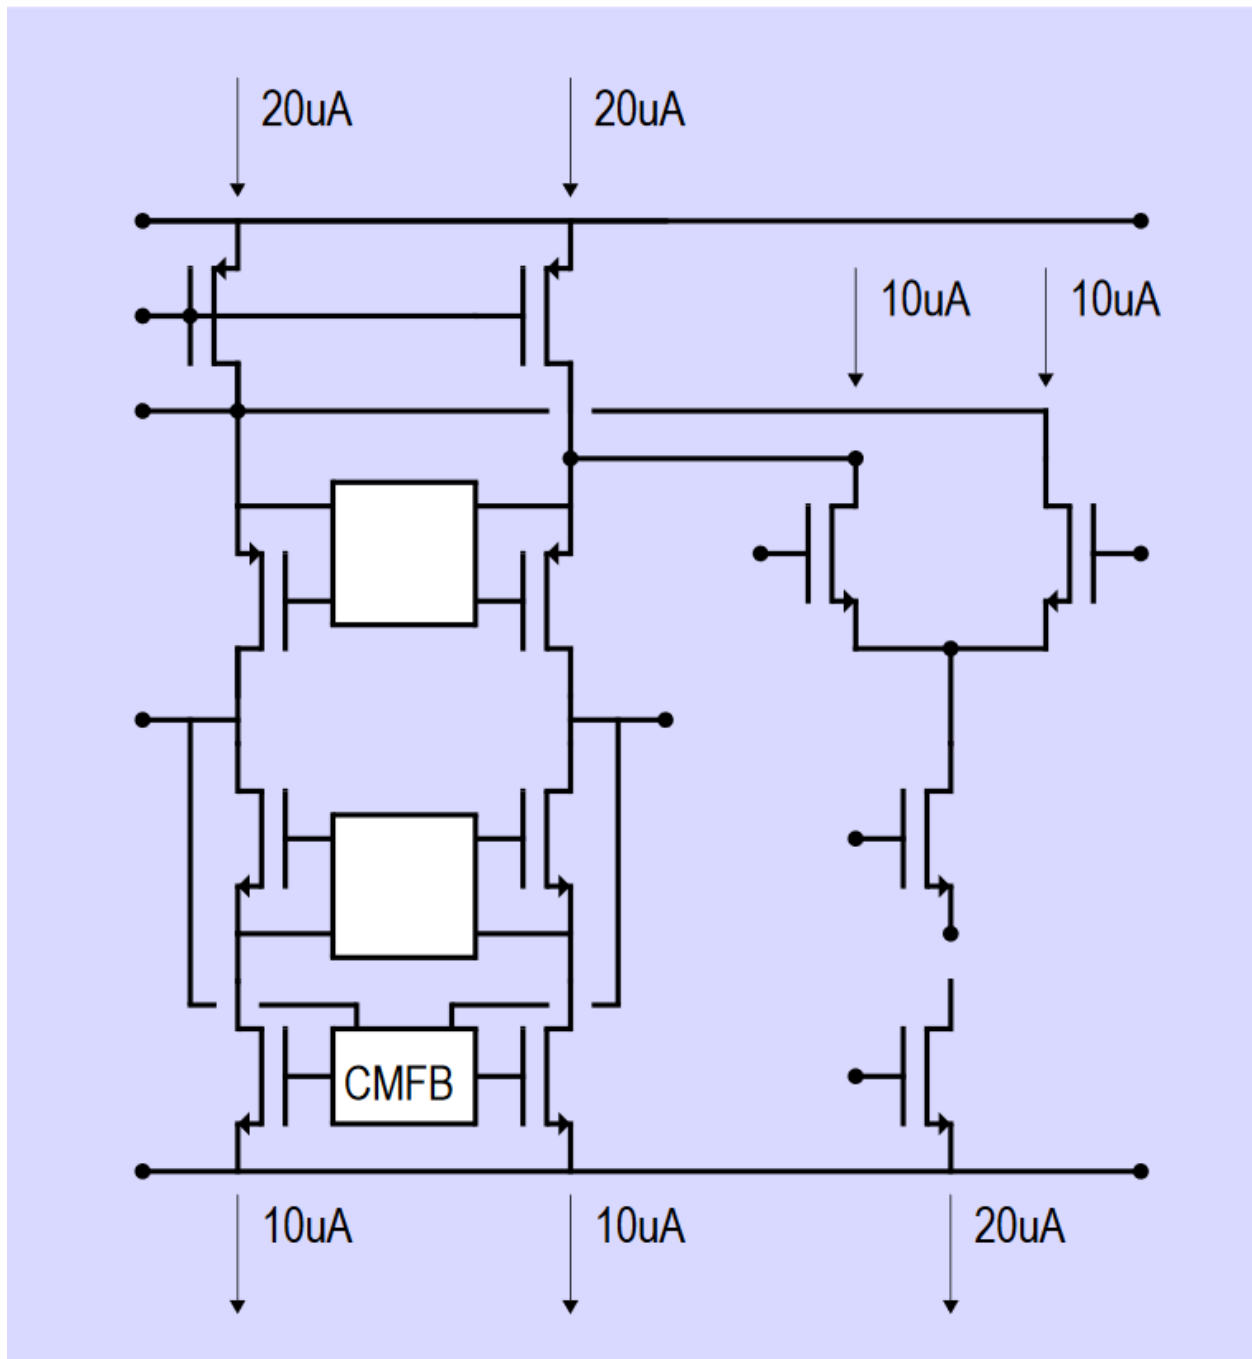

Fig.8. All branch currents
- 3) Schematic with all branch currents, as shown in fig. 8 (not a simulator schematic).